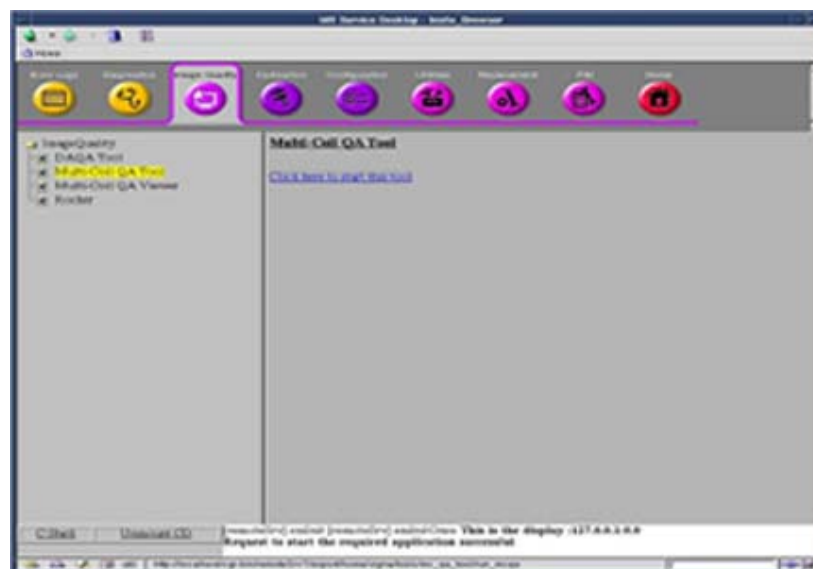

Figure 16
1. From Common Service Desktop (CSD) go to Service Browser and select [Image Quality], Multi-Coil QA Tool and then Click here to start this tool as shown in *Figure 16*.